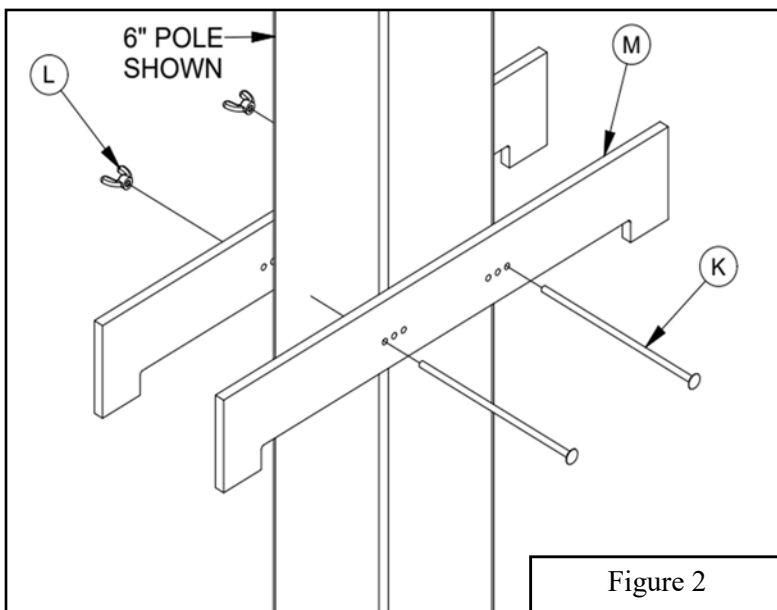

Figure 2
- 5a. Using the two $1/4"$ x $8"$ Carriage Bolts (K) and $1/4"$ Wing Nuts (L), sandwich the *Predrilled Wood Panels* (M) around the pole assembly at a location where the pole assembly will insert into the concrete footing. Use the set of holes that are closest to the side of the pole assembly. Position them as shown in Figure 2. The *Installation Aid* (K-M) can be adjusted to support the pole in the proper position when inserted into the concrete.
- 6a. Fill the footing to the top with medium wet fully mixed concrete. Never use the *Premix Concrete* (N) dry.
- 7a. Insert the pole assembly into the center of the footing making sure that one set of $1/2"$ x $3/4"$ Button Head Screws (B) are on the back side of the pole assembly, and that the front face of the pole assembly is square to the playing surface.
- 9a. Fill the inside of the pole assembly with wet *Premix Concrete* (N) if desired to increase pole stability. This will require approximately 1.8 cubic feet of additional *Premix Concrete* (N). Trowel the top of the footing and clean concrete off the pole for a finished look.
- 10a. **ALLOW AT LEAST 4 DAYS FOR CONCRETE TO CURE BEFORE COMPLETING THE INSTALLATION TO AVOID FOOTING FAILURE. Install *Warning Label* (GG) at eye level on the rear of the pole. If your warning label becomes damaged or is unreadable, request a no cost replacement from the manufacturer.**